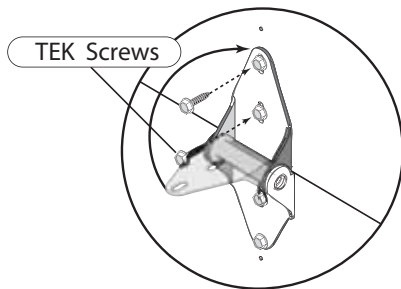

Figure 10
Once the section is in place, push up the upper leave(s) of the Center Hinge(s) and attach to the section above with (2) 1/4"x 1" TEK Screws (Figure 10).